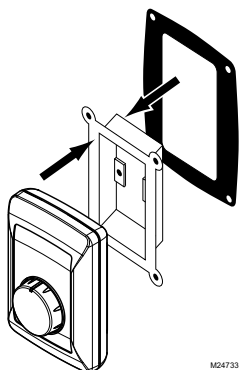

Fig. 14. Slide the foam gasket onto the base.
4. Slide the foam gasket onto the base. (See Fig. 14.)